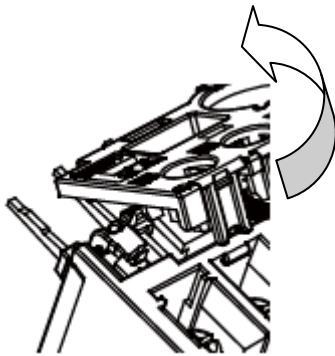

Fig. 1
1. Remove the thermal overload relay's auxiliary terminal cover. (Fig. 1)